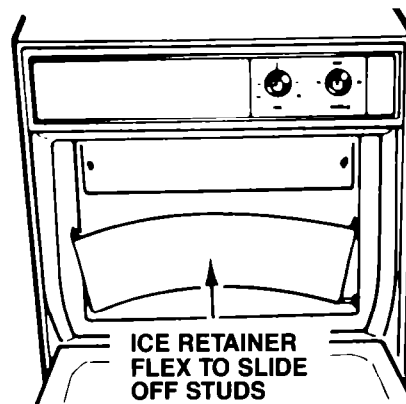

FIGURE 11
11. Remove ice retainer baffle, **Figure 11**.